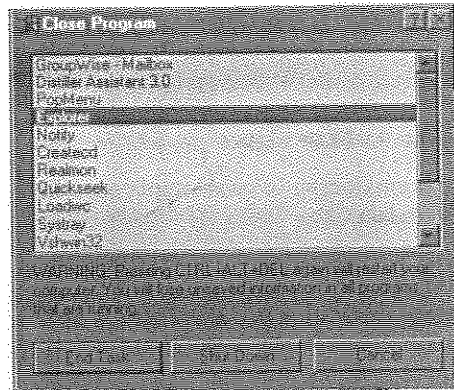

Figure 9. Close Program Window
**Note:** Before you install any portion of the Adaptec software package, it is strongly recommended that you disable any applications that may be running in the background, including anti-virus software, screen savers, schedulers, etc. This will ensure the proper installation of the Adaptec software. Press CTL-ALT-DEL on your keyboard. The "Close Program" window will display a list of all current programs in memory (Figure 9). With the exception of "Explorer" and "Systray," select each program, then click the "End Task" button. Then proceed with the installation below.